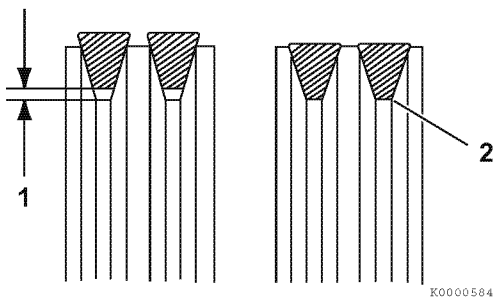

Figure 8-11
- Inspect the condition of the V-belt. There must be clearance (**Figure 8-11, (1)**) between the V-belt and the bottom of the pulley groove. If there is no clearance (**Figure 8-11, (2)**) between the V-belt and the bottom of the pulley groove, replace the V-belt.